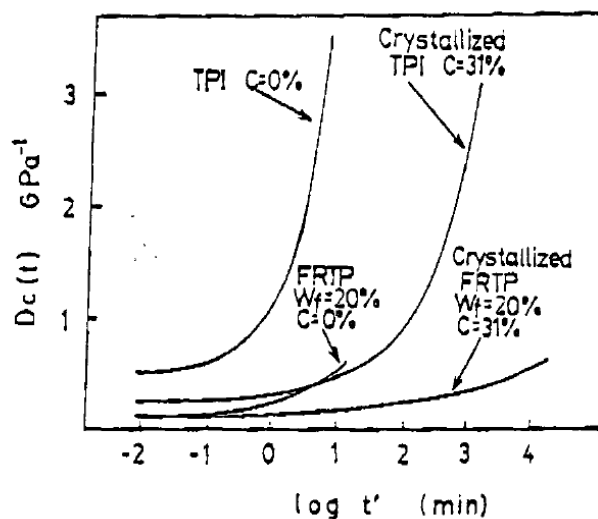

Figure 1: Creep compliance comparison at 0% and 31% crystallinity. Temperature = 240°C. TPI = unfilled polymer.
Of the thermoplastic matrices, two stand out as the most creep resistant: Polyphenylene Sulfide (PPS) and Polyetheretherketone (PEEK). The two main reasons for this are their high service temperatures, 225°C and 250°C respectively, and their level of crystallinity. Thermoplastics can be either amorphous or semi-crystalline. The long molecular chains are either randomly arranged (amorphous) or are somewhat regularly arranged and packed (semi-crystalline). Figure 1 (ref 1) shows creep compliance versus time for a 20% carbon fiber filled Polyimide thermoplastic, and compares the level of crystallinity. **The effect is that more crystallinity yields better creep resistance. Both PPS and PEEK have high levels of crystallinity.**